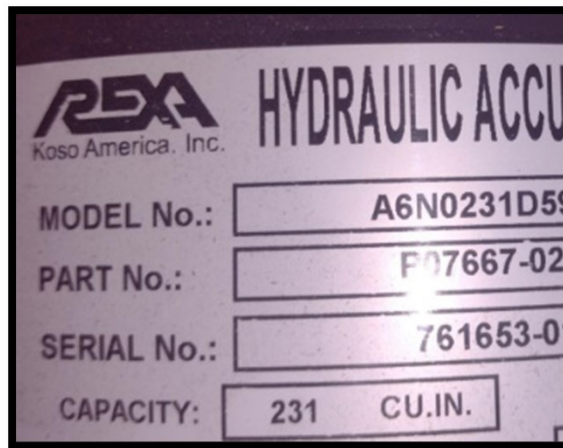

Figure 1
1. Determine accumulator bottle oil capacity by tag. See Figure 1 below. Use Table 1 below to determine nitrogen volume value.